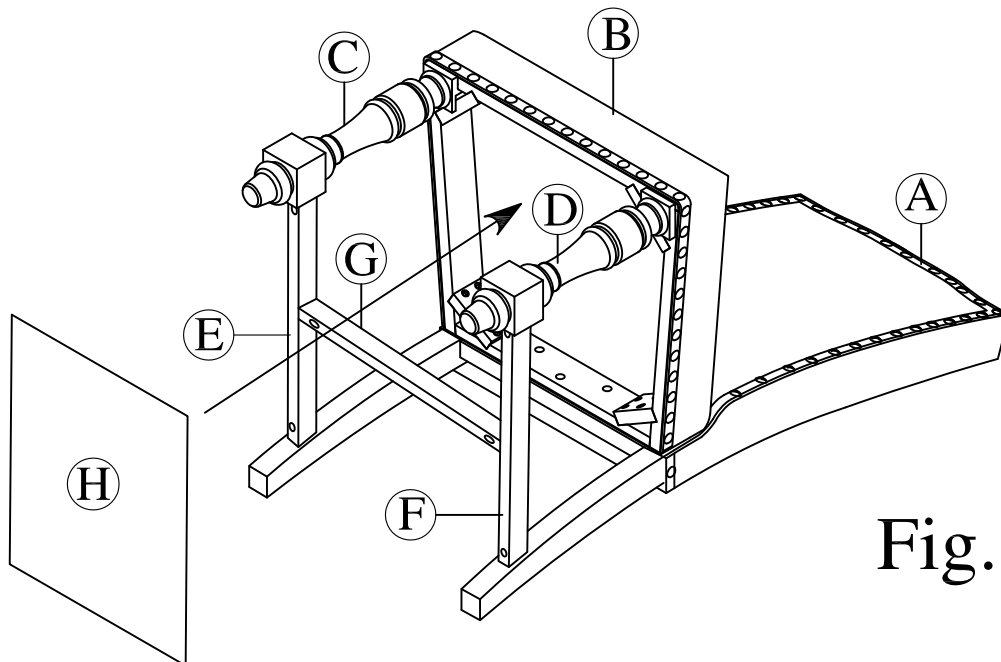

Fig.8
Step 10: Attache Velcro (H) under Cushion Seat (B) as shown in Fig.8